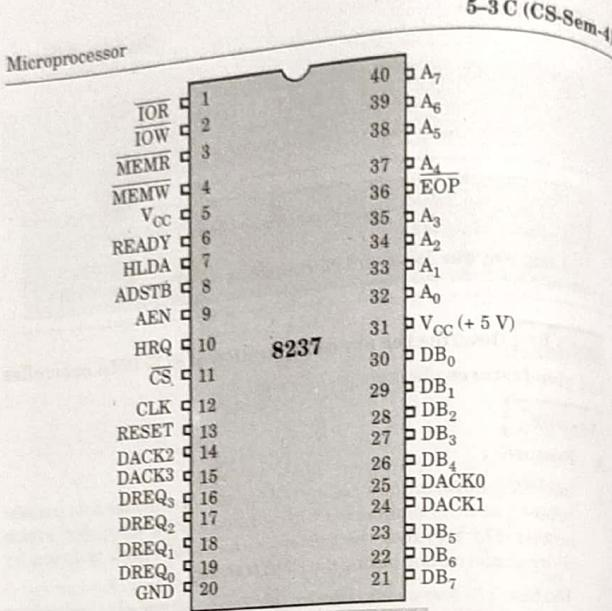

Fig. 5.1.1. Pin diagram of 8237.
4. **B. Pin diagram :** Pin diagram of 8237 DMA controller is shown in Fig. 5.1.1. The functional signal description in brief as follows :